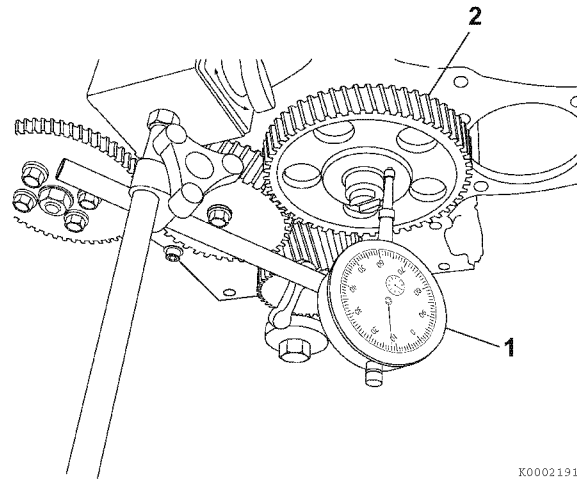

Figure 6-48
- **Method A:** Install a dial indicator (1, **Figure 6-48**) on the cylinder block. Move the camshaft and gear (2, **Figure 6-48**) in and out to measure the end play. Record the measurement. See *Camshaft* on page 6-6 for the service limit.